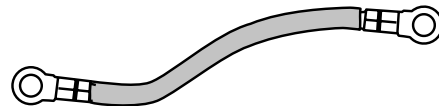

Fig. 13.7
**⚠** Your range is supplied with a ground strap that can be used when connecting to a three wire cord. Consult your electrician before changing the supplied cord kit (**Fig. 13.7**).
A Ground strap is supplied in the conversion pack (**Fig. 13.7**). Fit the Ground strap to the ground and center terminal of the connector block.